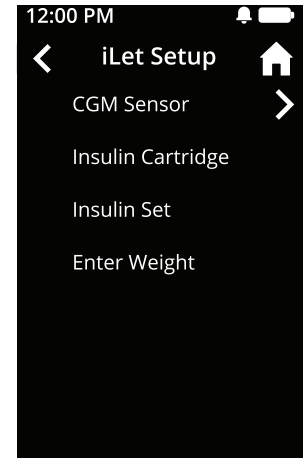

Figure 38
- A list of tasks to complete will appear on the touchscreen (see Figure 38).